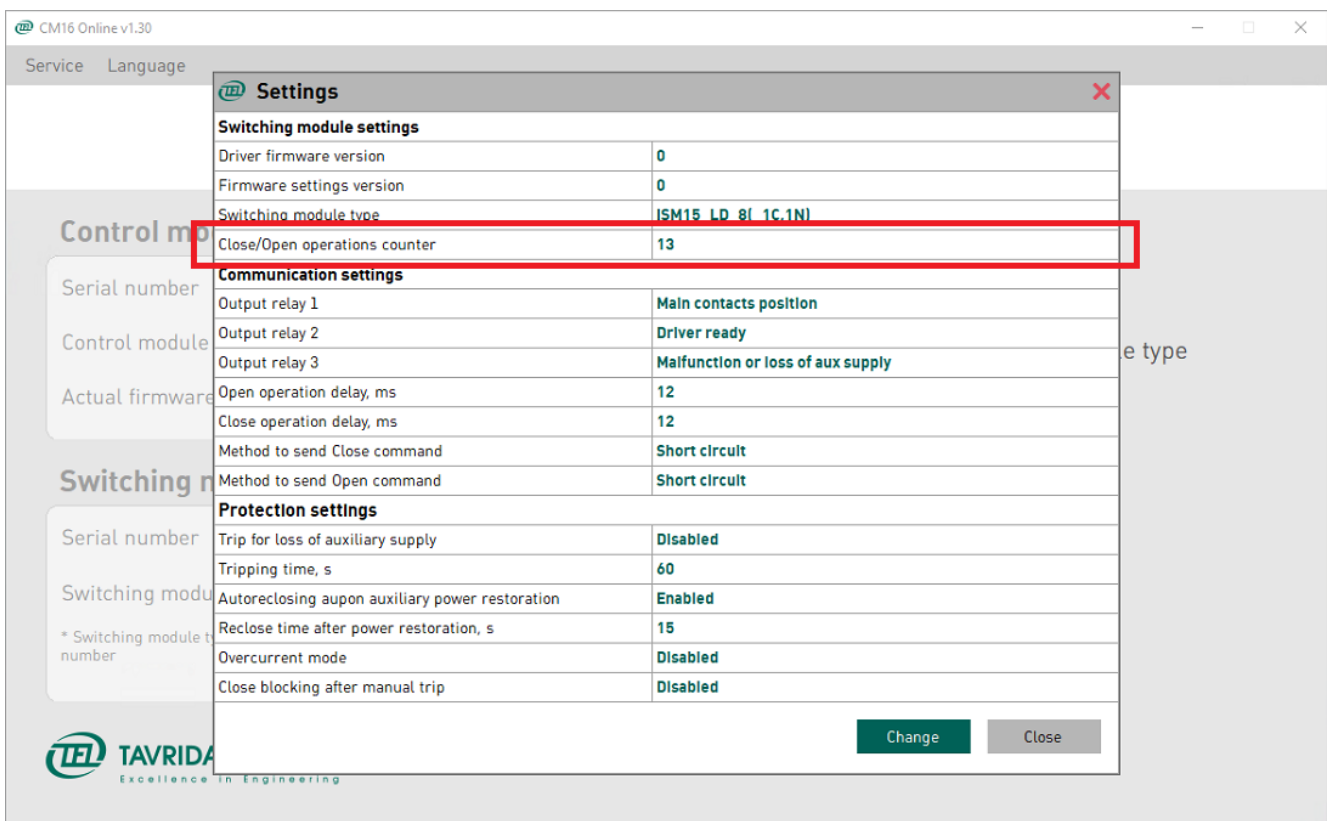

Figure 80
- 5) To apply test voltage single-core short cables should be used. Application of high voltage coaxial cables is strictly prohibited. To coordinate the surge impedance between the test set and ISM extra resistor as shown in the Figure 80 shall be used.